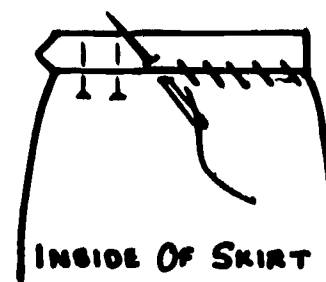

Figure 42.
- c. A waistband for a delicate fabric or a dressy skirt is hand finished on the wrong side with a slip stitch (see Figure 42).